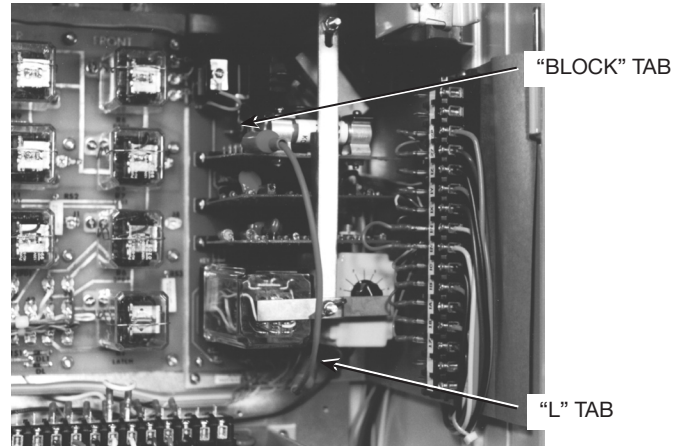

Figure 26.
- Disable the phase sensing circuit by placing a shorting jumper from the BLOCK tab on the phase resistor card to tab L on the accessory tie-board (Figure 26).
1. Disable the ground sensing circuit by shorting the ground fault resistor (Figure 26).